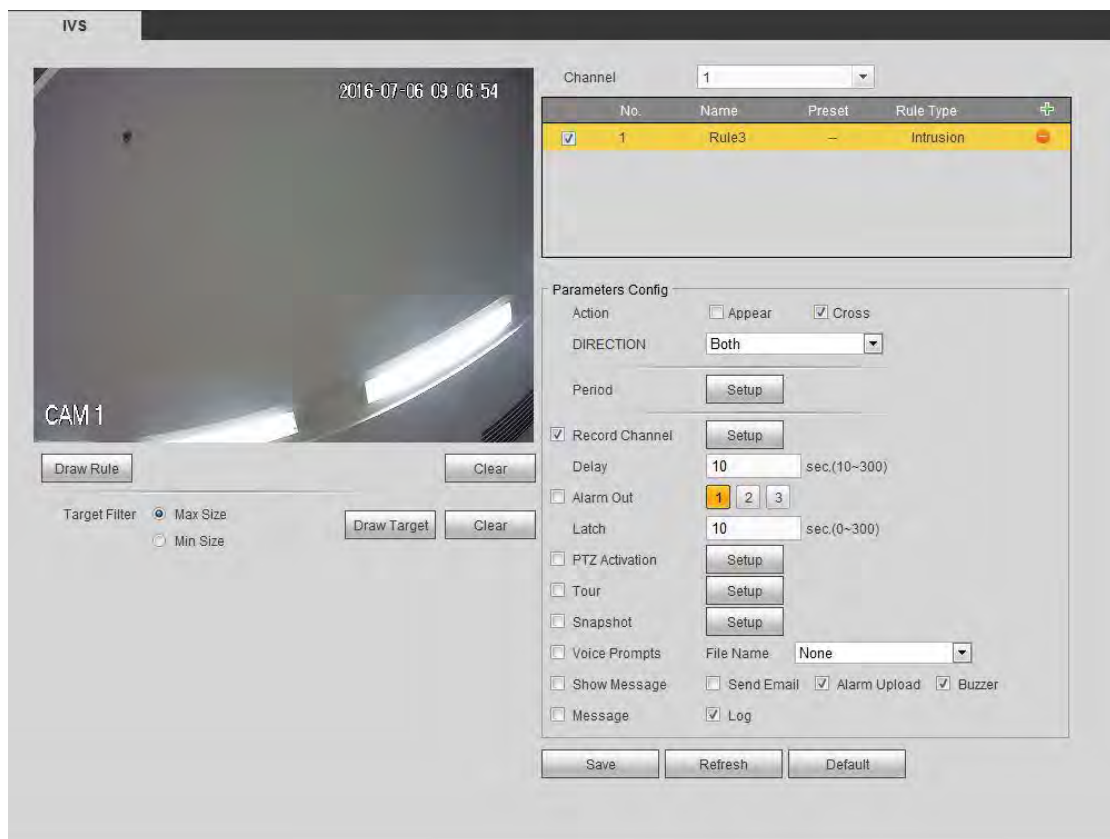

Figure 5-80
Step 2 Check the box to enable Intrusion function. See Figure 5-80.